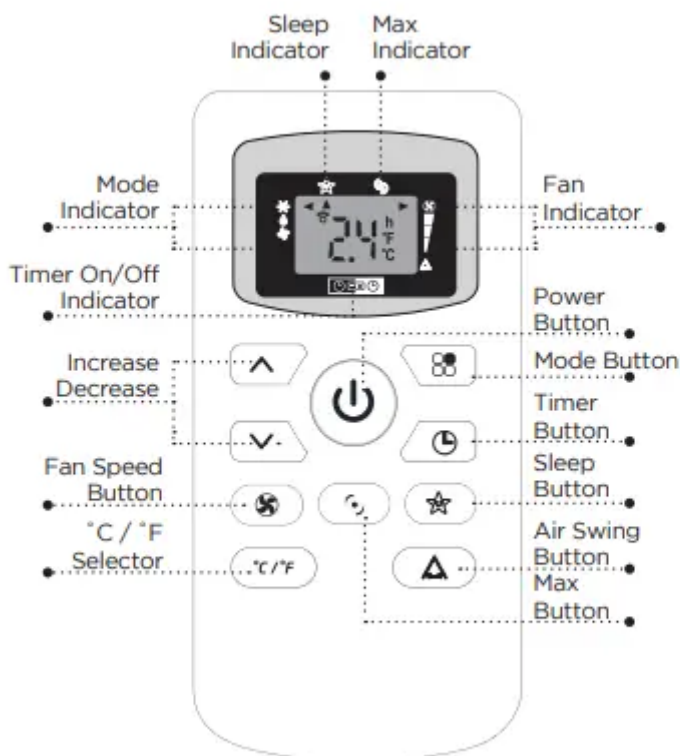

Fig. 9
- The fan speed selected will show in the display. One row for Low, Two rows for medium and three rows for high. (See fig. 9)